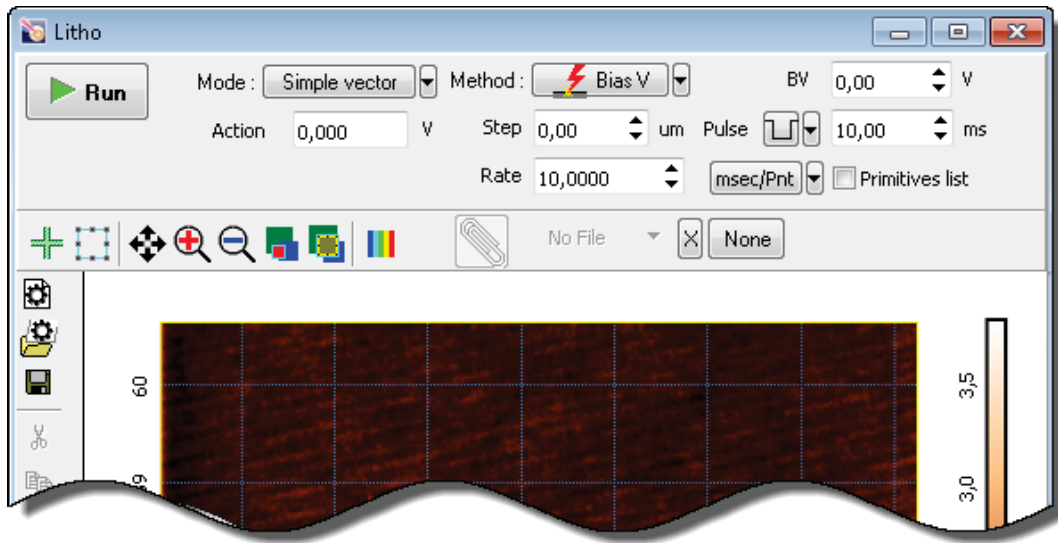
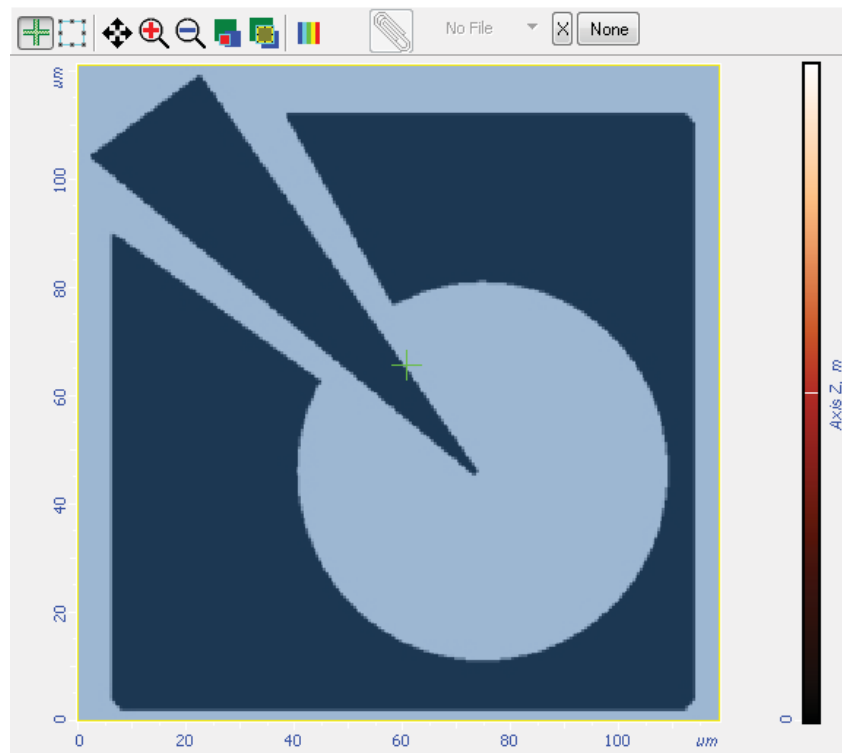

Fig. 13-25. **Litho** window
Fig. 13-28. Template for raster lithography is loaded
4. Open the **Litho** window (Fig. 13-25), by clicking the  button in the Main Operations panel.
To load a lithography template, click the  button in the Control panel of the **Litho** button (see Fig. 13-25). This will open the standard **Open** dialog. In this window, select the desired file and click the **Open** button. The template image will appear in the **Litho** window (Fig. 13-28).